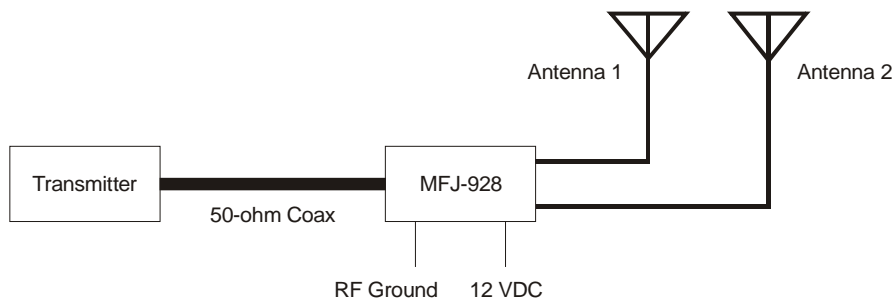

Figure 1. Typical Installation Block Diagram.
2. Install the tuner between the transmitter and the antenna. Use a 50-ohm coaxial cable (such as RG-58) to connect the transmitter to the connector marked TRANSMITTER on the rear of the tuner. See Figure 1 on page 3.